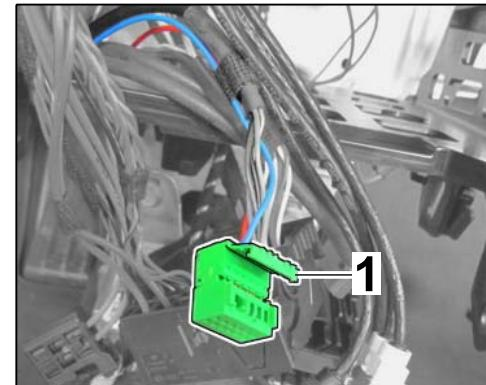

Figure 21
4.4.3 Open secondary lock  $\Rightarrow$  Figure 21
-1- ( $\Rightarrow$  Figure 21 -arrow-).